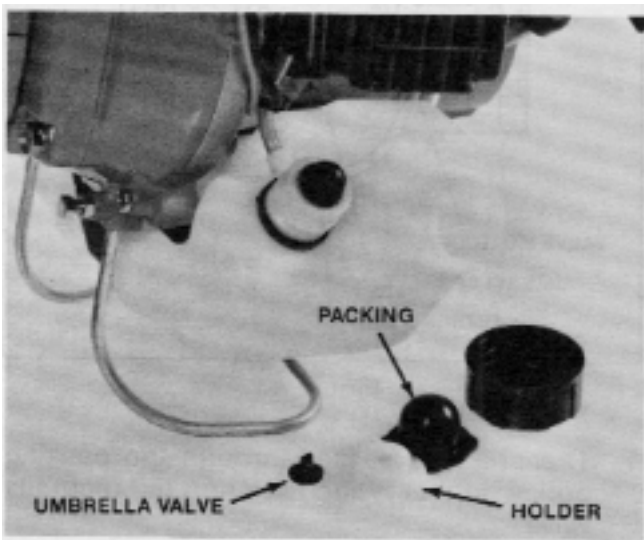

Figure 46
2. Pry the gasket, holder and breather valve out of the tank cap. See Fig 46.